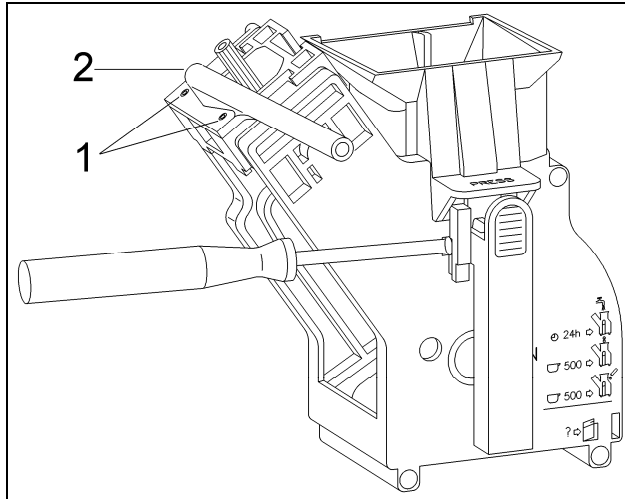

Figure 5-29: Brew Unit Output and Handle
2. Remove the 2 Phillips screws (Figure 5-29, Item 1) securing the output (Figure 5-29, Item 2) to the brew unit.
2. Press the handle locking tabs inward (see Figure 5-29).